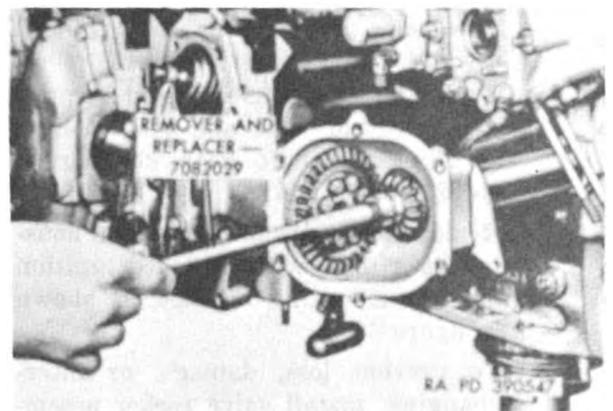

Figure 43. Removing or installing camshaft drive shaft oil transfer outer plug.
- (2) Remove retaining ring securing oil transfer outer plug in camshaft drive bevel gear. Remove oil transfer outer plug with remover and replacer 7082029 (fig. 43).